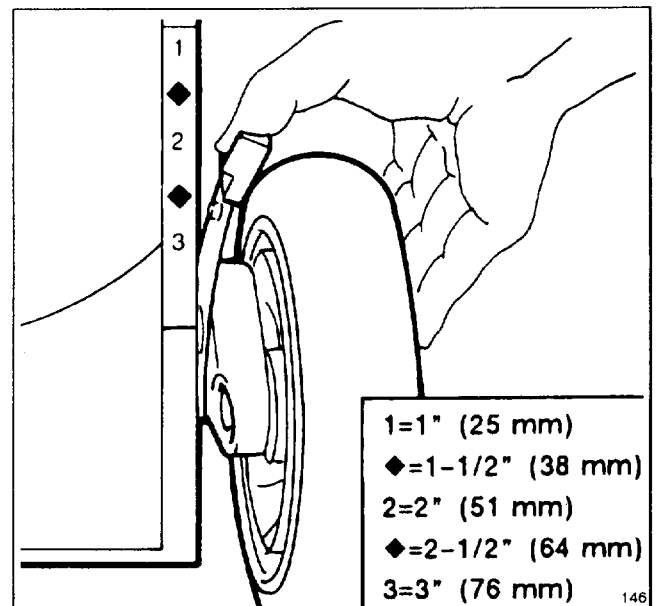

Figure 10
Three numbers cast into the housing represent the height-of-cut settings. The diamond between each number represents a 1/2" increment (Fig. 10).
2. For easier adjustment, lift housing up so wheel is off ground. **Do not put fingers under housing when lifting.** Squeeze adjusting lever toward wheel and move to desired setting (Fig. 10). Ensure pin on adjusting lever engages notch in housing. Adjust all wheels to the same setting.